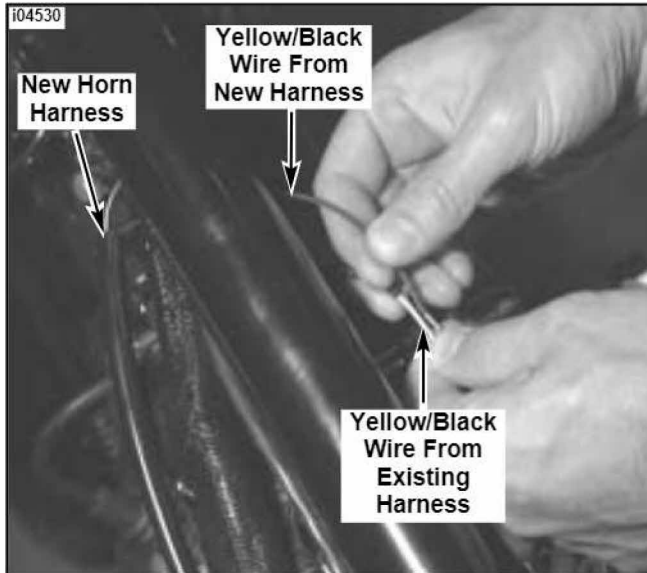

Figure 3. Connect New Harness to Existing Harness
9. See Figure 3. Continue routing harness toward front of bike then perform the following: